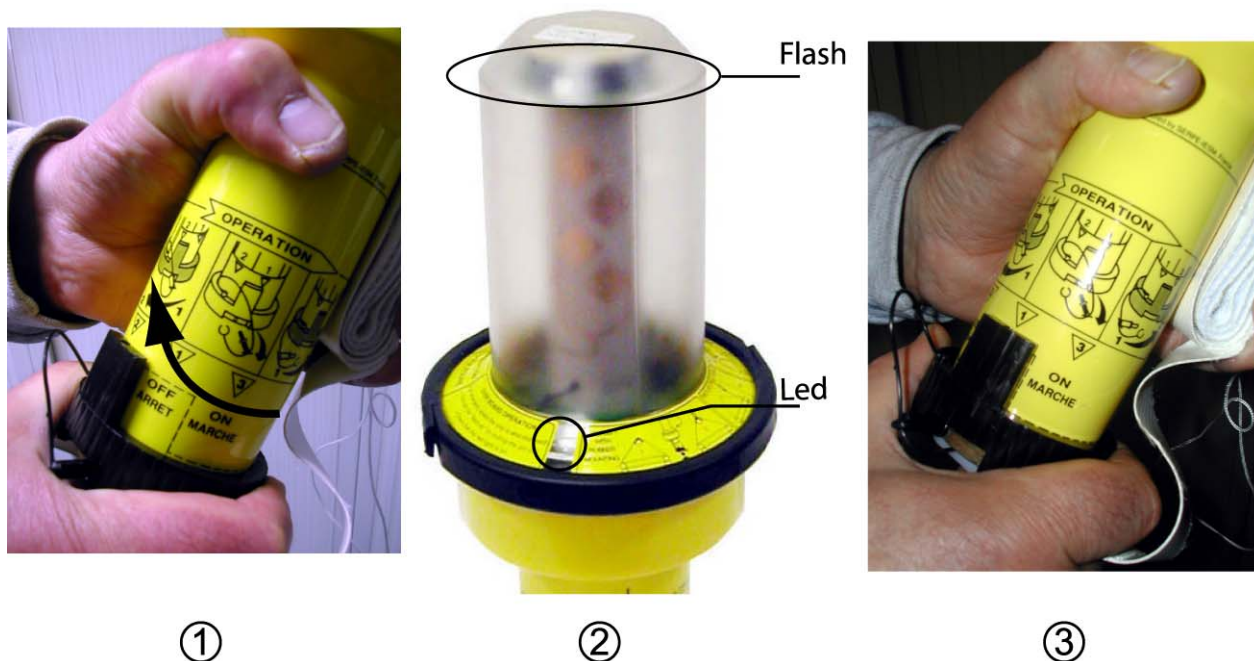

Figure 20 - Self-test
- (1) Switch RESCUER N°1 in test position (see [1] Figure 20 - Self-test), wait 10 seconds to stand by mode and hold it in this position (red led on, no flash neither loud signal).
- (2) Switch RESCUER N°2 in test position:
- (3) Reverse operation to check RESCUER N°2.
- (4) When the tests are over, release the switches to turn both RESCUER SART off (see [3] Figure 20 - Self-test).